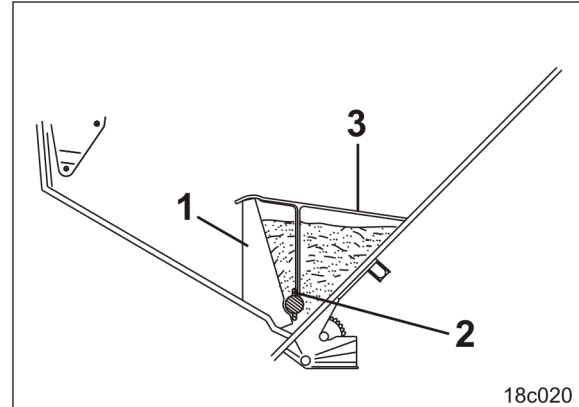
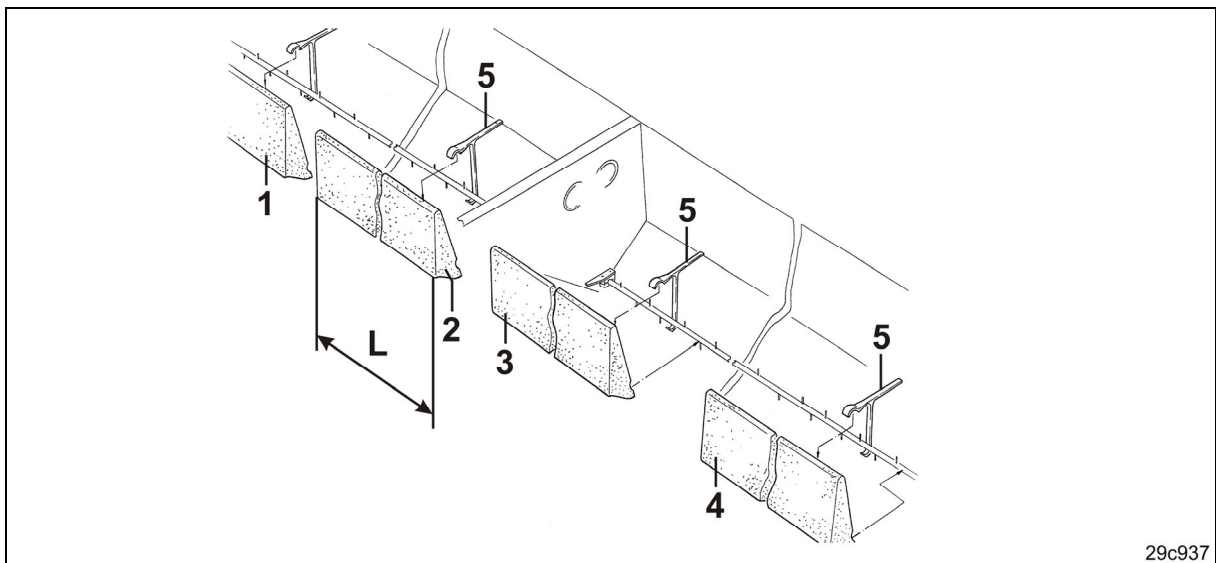

Fig. 146
Fig. 147
Position the stirring pins (Fig. 146/2) vertically if the agitator shaft does not have any round stirring elements, see section Agitator shaft support, page 68.
2. Fasten the rapeseed insert profiles (Fig. 146/1) in the seed hopper using clamps (Fig. 146/3), see assembly diagram (Fig. 147).